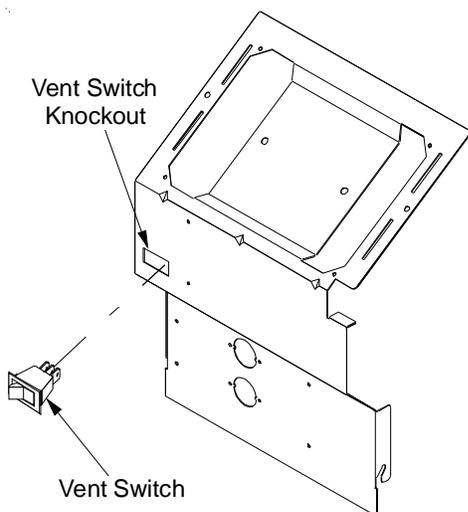

Figure 12
- Remove the knockout for the vent switch (Figure 12) located in the control panel and snap the vent switch in the knockout hole with the terminals inside the control panel compartment. The numbers on the switch should be facing toward the control board. Place the supplied label just above the switch.